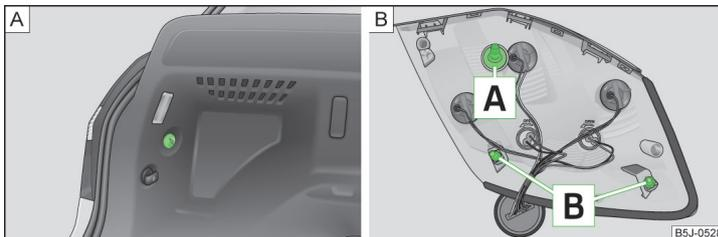

Fig. 162 Plastic nut/rear lamp
- › Hold the rear light assembly still with one hand and unscrew the plastic nut » Fig. 162 - **A** with the other.
- › To refit the rear light assembly, first insert screw **A** into the opening in the bodywork » Fig. 162.
- › Hold the rear light assembly still with one hand and attach and tighten the nuts » Fig. 162 - **A** with the other hand.